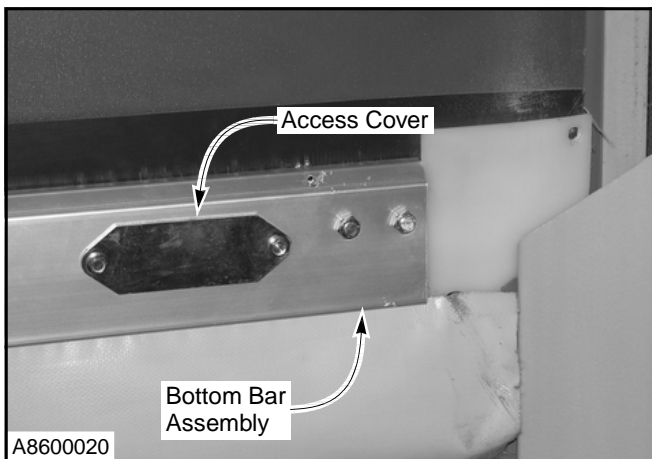

Figure 23
1. The reversing edge switch is located inside the bottom bar assembly, on the end opposite the drive motor. To inspect and adjust the switch, remove the access cover from the face of the bottom bar assembly. (See Figure 23.)